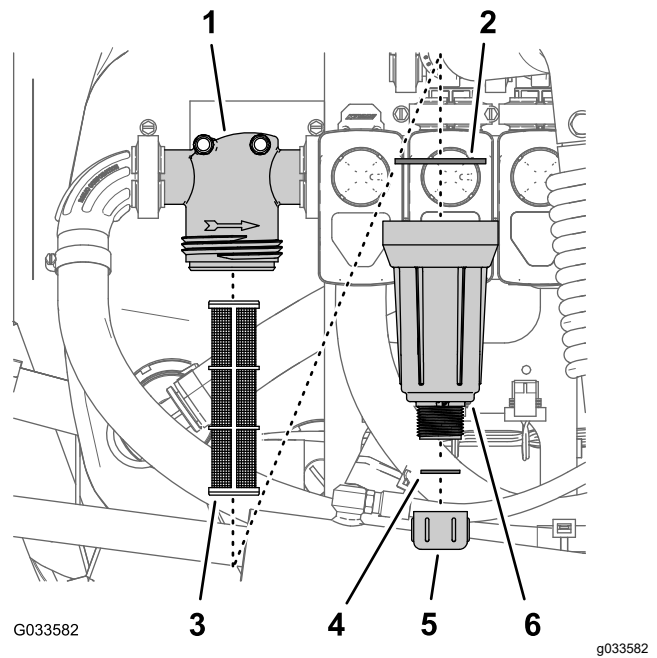

Figure 96
2. Align a drain pan under the pressure filter (Figure 96).
3. Rotate the drain cap counterclockwise and remove it from the bowl of the pressure filter (Figure 96).
4. Rotate the bowl counterclockwise and remove the filter head (Figure 96).
5. Remove the pressure filter element (Figure 96).
7. Check the gasket for the drain plug (located inside the bowl) and the gasket for bowl (located inside the filter head) for damage and wear (Figure 96).
8. Install the pressure filter element into the filter head (Figure 96).
9. Install the bowl onto the filter head, and tighten by hand (Figure 96).
10. Assemble the drain cap onto the fitting at the bottom of the bowl, and tighten the cap by hand (Figure 96).